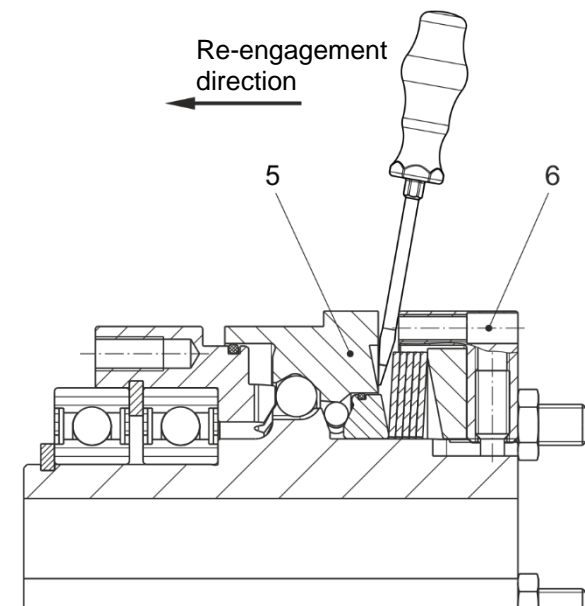

Fig. 5
- ❑ Manually, using a plastic hammer or installation levers (Fig. 5) supported on the adjusting nut (6), e. g. two screwdrivers placed opposite each other.